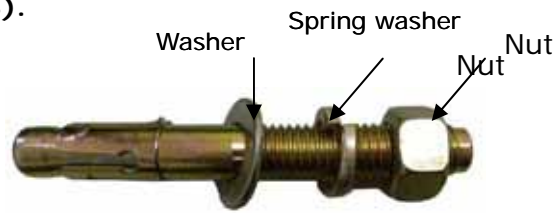

Fig. 13
1. Prepare the Anchor Bolts (See Fig. 13).